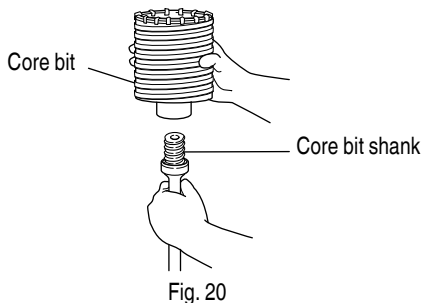

Fig. 20
- (1) Mount the core bit to the core bit shank. (Fig. 20)